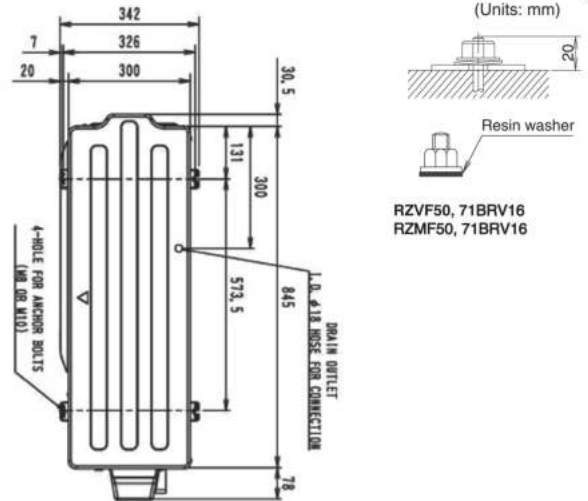

Fig : 1 BOTTOM VIEW
- In accordance with the foundation drawing in Fig. 1, fix the unit securely by means of the foundation bolts. (Prepare 4 sets of M12 foundation bolts, nuts and washers each which are available on the market.)
- Fix the outdoor unit to the foundation bolts using nuts with resin washers. (See the left-hand of Fig. 1 drawing )